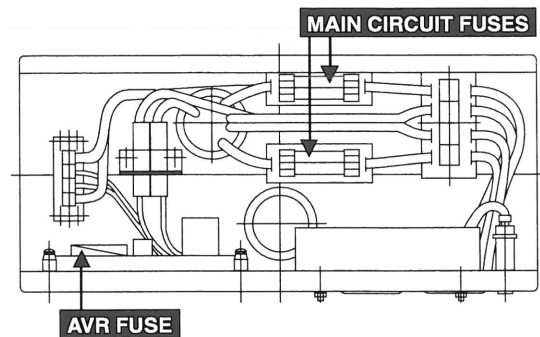

**Figure 35:** Brush Location.
- b. Brush assembly is white plastic with two wires leading to it. It is located at ten o'clock and is held in position by two screws (Figure 35). Remove the screws and unplug leads.